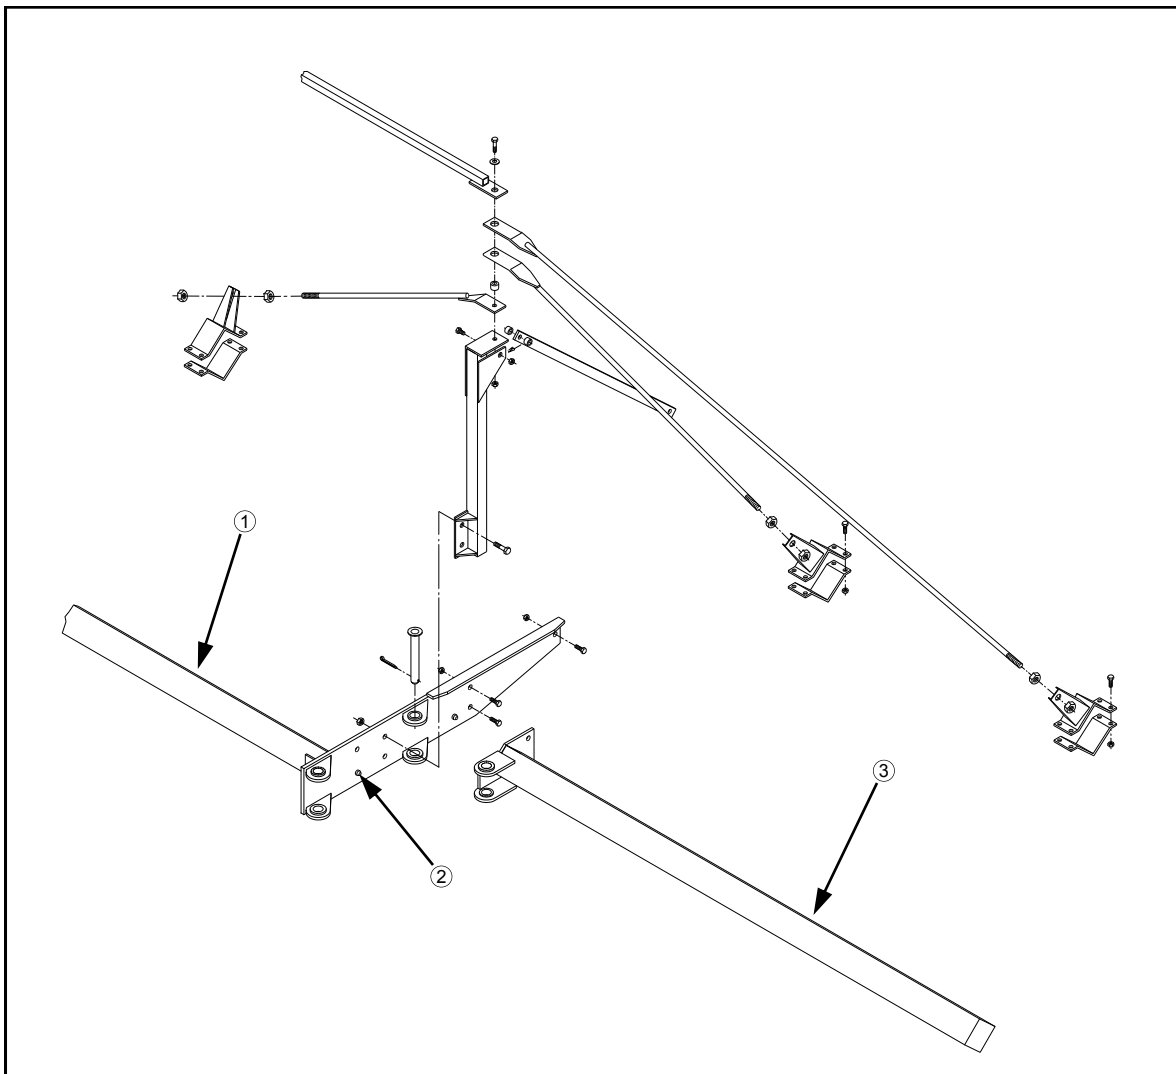

FIG 4.12
1. Attach the center tool bar (fig. 4.12, item 1) to front frame cross member with supplied hardware according to 204& 204SP DETASSELER Parts Manual for correct hardware.
The guide pin that is welded to outrigger mount should be located toward the bottom (fig. 4.12, item 2).
2. Attach left and right outrigger (fig. 4.12, item 3) with supplied hardware. Refer to 204 & 204SP DETASSELER OPTION Parts Manual.